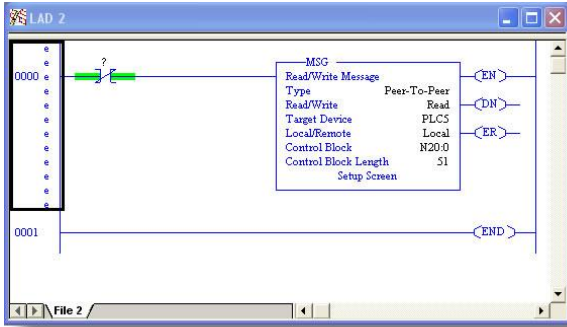

Figure 66: PLC Program after MSG Instruction Configuration
- f) Close the dialog box. At this point, the program should appear as shown in Figure 66.